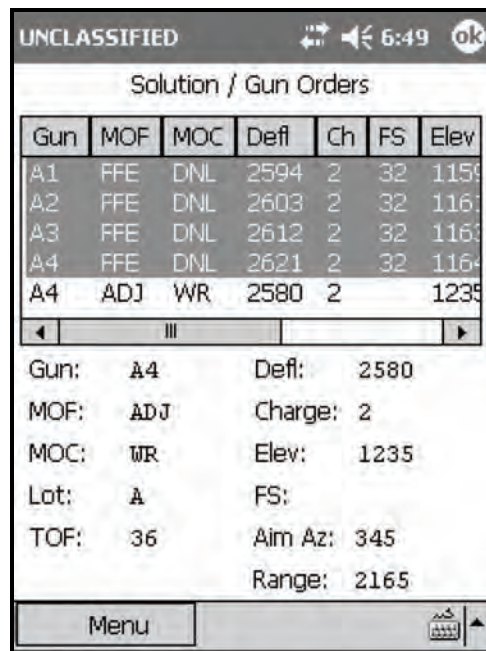

Figure 18-70. High-Explosive Adjustment Phase – first solution.
(10) Select Use All.
(11) The Solution/Gun Orders screen displays.
(12) Continue to process the mission as a standard grid mission, as shown in the following example (Figures 18-70 to 18-76).